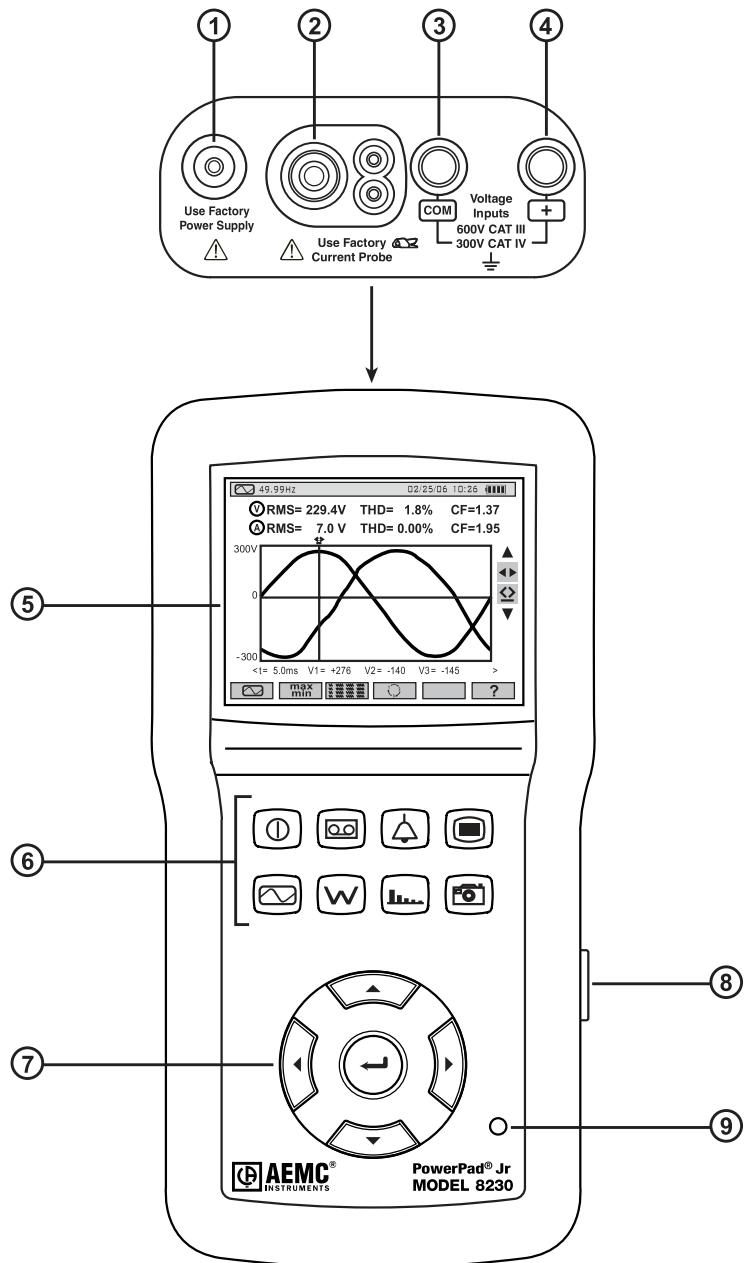

Figure 2-1
The optical interface (Figure 2-1, item 8) provides an optical, and therefore isolated, two-way connection between the 8230 and a PC for transmission of the information in memory (alarms, snapshots, motor starts, records) and all instantaneous measurements and waveforms displayed on the screen of the 8230.